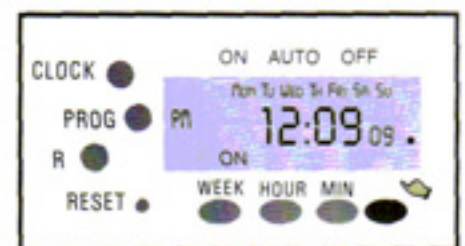

Figure 12
- 3.2 If the LCD display reads "ON" (See Figure 12) then the timer is ON. In this function you will be able to test the AUTOPETFEEDER. and during the priming process and during the Autopetfeeder's initial setup.